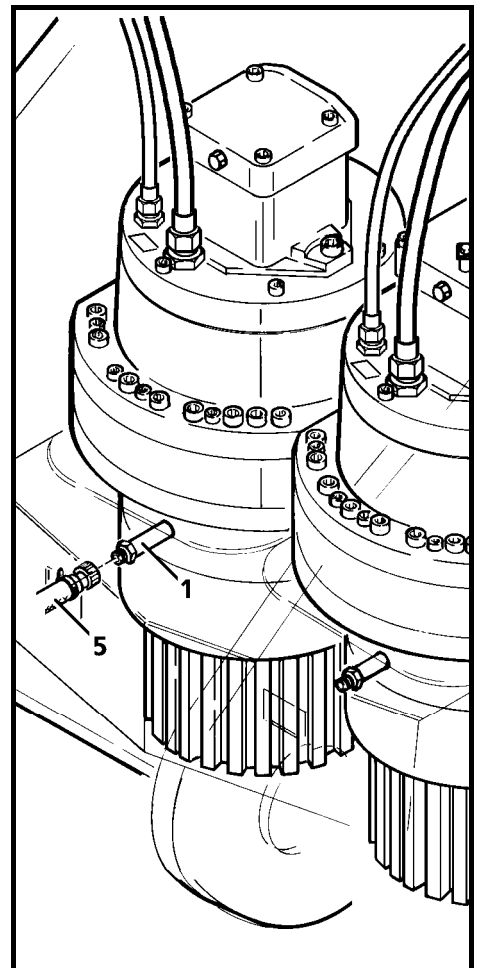

Fig. 24
The lower fitting for oil drain of each gear (Fig. 24, pos. 1) is directly connected to a coupling 6 of the service plate.